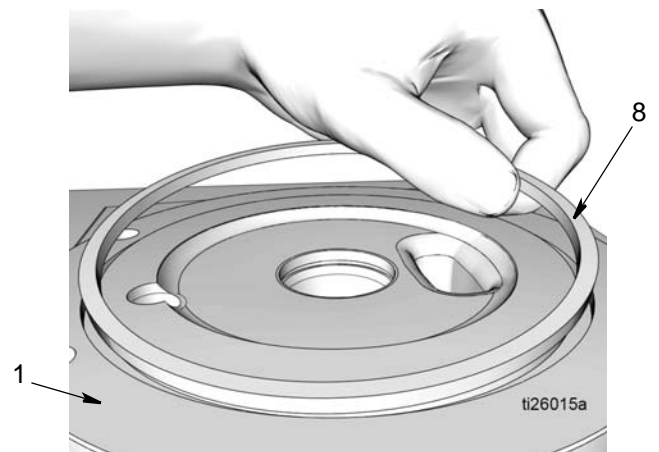

FIG. 29
21. Remove square o-ring (8) from the pump base (1) (FIG. 29). Dispose of o-ring according to all regulations for proper disposal